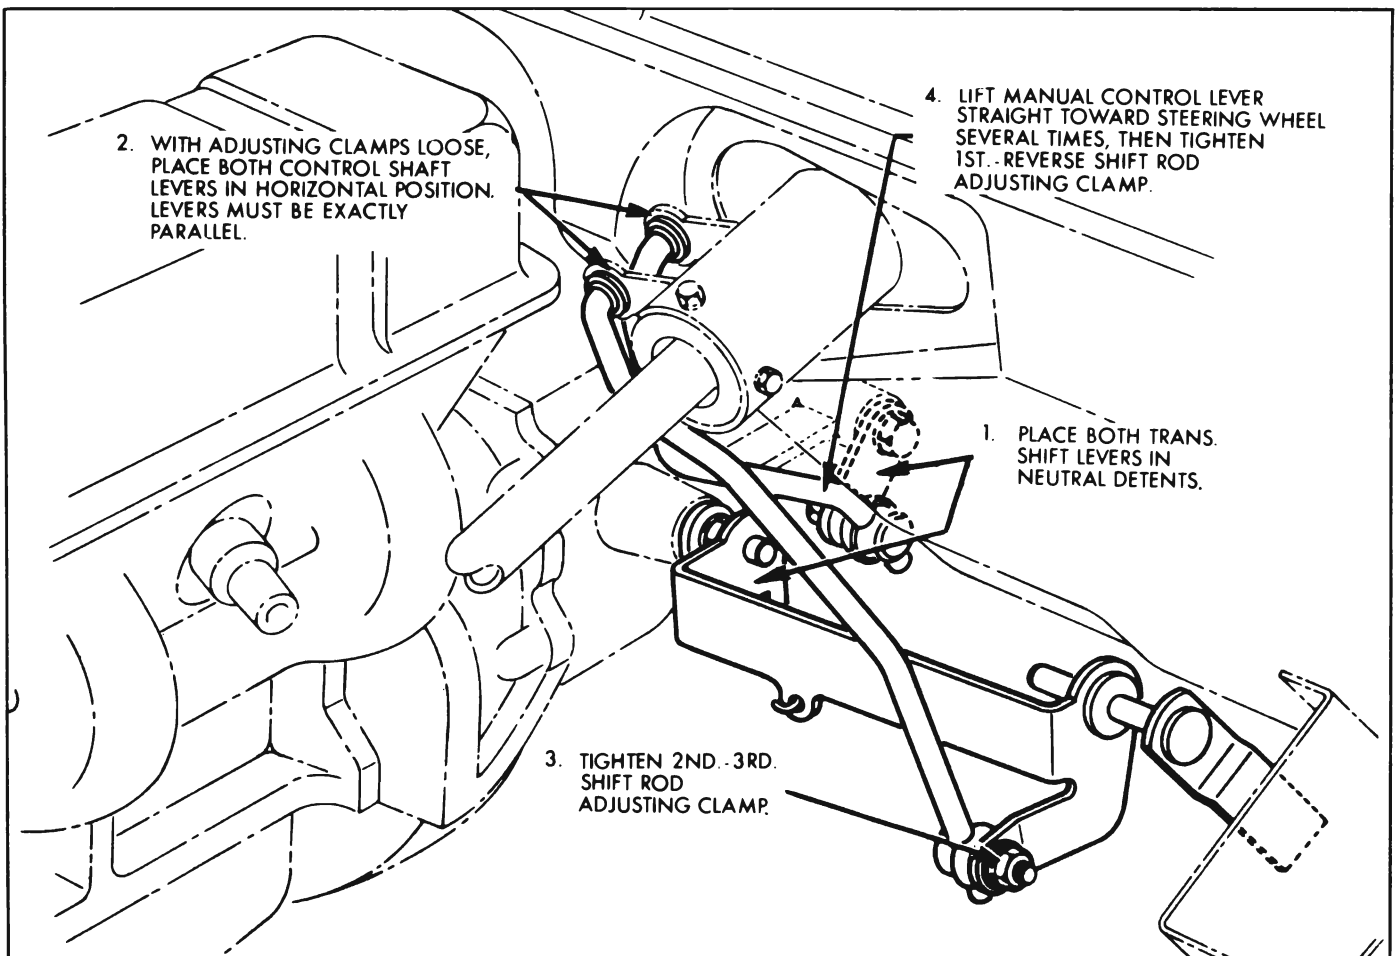

Figure 4-10—Synchromesh Transmission Shift Controls
An equalizer lever is pivoted between the second-third shift lever nut and a bracket mounted on the body side rail. A shift rod from the transmission control shaft lever actuates the equalizer lever which in turn engages the second-third shift lever. This equalizer allows operation of the transmission in second and third with little or no effect from relative motion between the engine - transmission assembly and the body. See Figure 4-10.
1. Place both transmission shift levers in neutral detent position. See Figure 4-10.
4. Lift manual control lever from 2nd-3rd range straight toward steering wheel into 1st reverse range. Do this several times to align 1st-reverse lower control shaft lever, then tighten 1st-reverse shift rod adjusting clamp. See Figure 4-10.